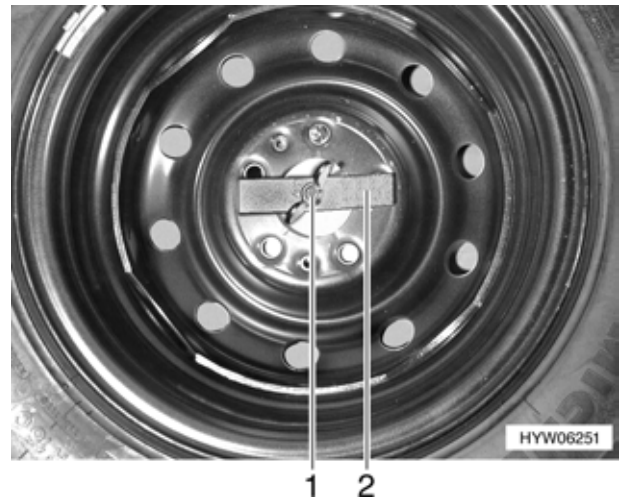

Fig. 176 Spare wheel in the rear storage space (variant 1)
- Loosen the wing nut (Fig. 176,1) and unscrew it.
- Remove the pad (Fig. 176,2).